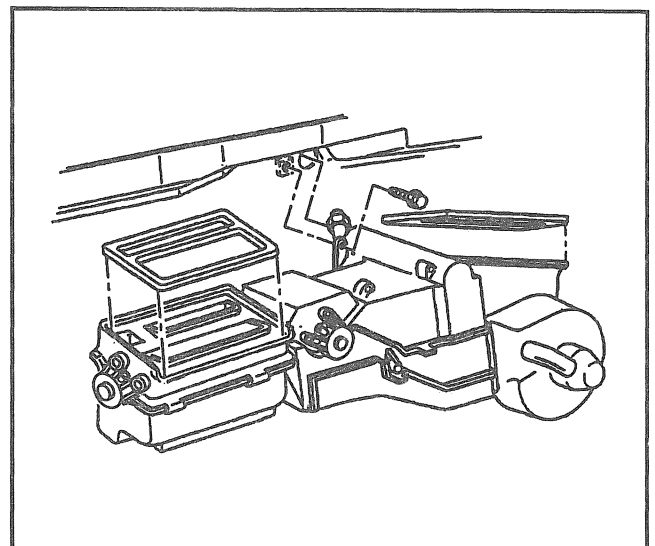

Figure 10—Heater Case (1 of 2)
Remove or Disconnect (Figures 10 and 11)
Install or Connect (Figures 10 and 11)
12. Screw on interior side of cowl, near the evaporator pipe (if equipped) while holding heater case to the cowl (Figure 10).